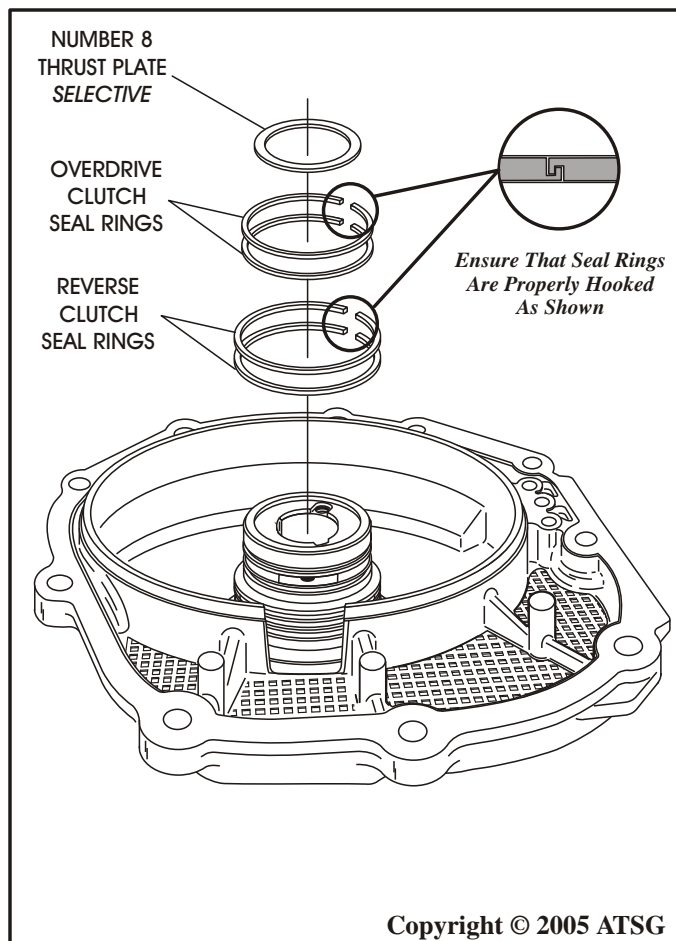

Figure 74
4. Install new reverse clutch sealing rings into the grooves, as shown in Figure 74, and ensure that they are properly hooked and seated.
5. Install new overdrive clutch sealing rings into grooves, as shown in Figure 74, and ensure that they are properly hooked and seated.
6. Install the selective number 8 thrust plate, as shown in Figure 74, and retain with a small amount of Trans-Jel®.